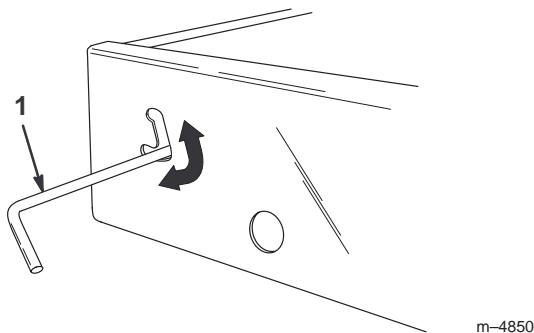

Figure 11
1. Slide the latch upward toward the top of the cutout in the bed frame (Fig. 11).
3. To secure the bed tightly to the bed frame, move the latch to the lower section of the cutout (Fig. 11).